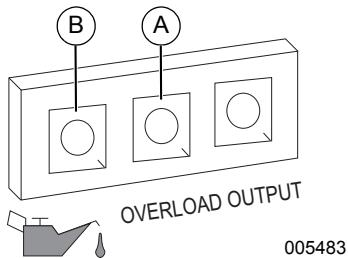

Figure 3-3. Shutdown Fault
IMPORTANT NOTE: Do not overload generator or individual panel receptacles. See **Figure 3-3**. If an overload occurs, the overload LED (A) will illuminate and AC output ceases. To correct, see **Generator Status Lights**. Read **Know Generator Limits** carefully.
The engine is equipped with a low oil level sensor that shuts down the engine automatically when the oil level drops below a specified level to prevent engine damage. See **Figure 3-3** (B). The engine will not run until the oil has been filled to the proper level.